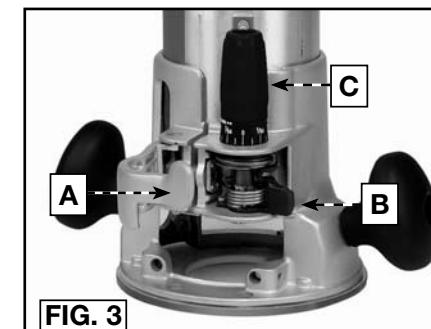

FIG. 3
- Open the clamp (A) Fig. 3.
- Pull the lever (B) and set the router on the workpiece. With the router flat and level, let the bit barely touch the workpiece.
- Hold the lever (B) and turn the depth knob (C) until the zero aligns with the zero mark on the router base.
- Release the lever (B). Make sure that the zero remains aligned with the zero mark.
- Turn the knob (C) clockwise to the desired depth of cut.
- Close the clamp (A).